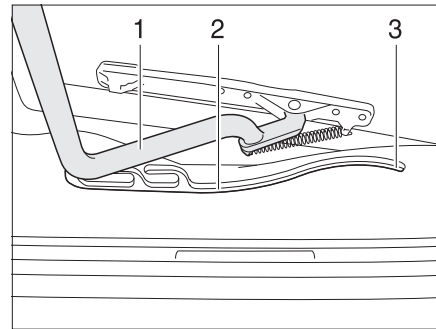

Fig. 84 Heki skylight, guide
- Pull the bar (Fig. 84,1) in the guides (Fig. 84,2) to the rearmost position (Fig. 84,3).
- Use both hands to push the bar (Fig. 84,1) slightly upwards.
- Pull the bar in the guides (Fig. 84,2) to the desired position.